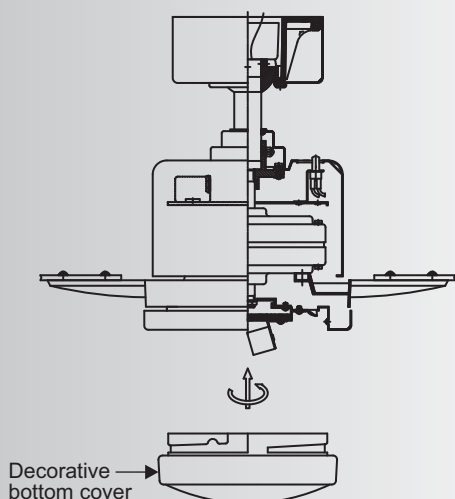

Fig. 20
Step 3. If installing the decorative bottom cover, securely tighten. (Fig. 20)
NOTE: Please remove the lamps before installing the decorative bottom cover. (Fig. 20)